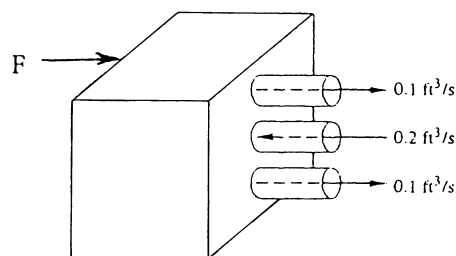

Fig. P3.65
**3.65** The box in Fig. P3.65 has three 0.5-in holes on the right side. The volume flows of 20°C water shown are steady, but the details of the interior are not known. Compute the force, if any, which this water flow causes on the box.